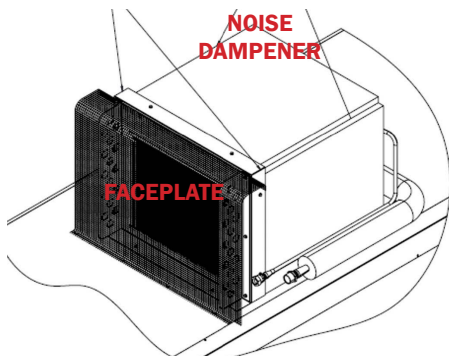

Fig. 63 Low charge housing air-block
- With piping connections reconnected and electrical junction box installed on low charge cases, the condensing unit balloon guard can be placed back onto the cases using the screws retained from "DOORWAY PREP" step 3 (Fig. 63).